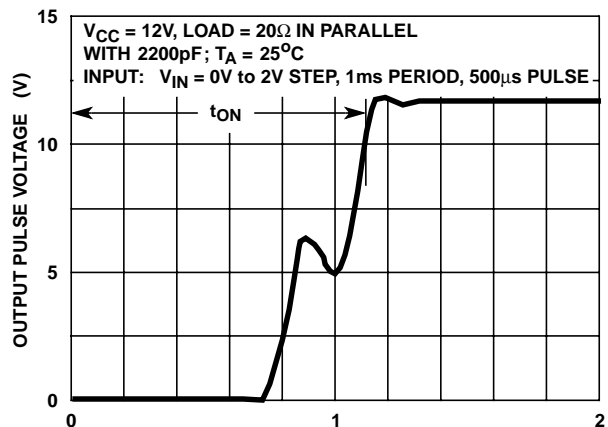

FIGURE 3A. OUTPUT TURN-ON TIME (µs)
- Refer to Figures 3A and 3B for typical switching speeds with a 20Ω Load.